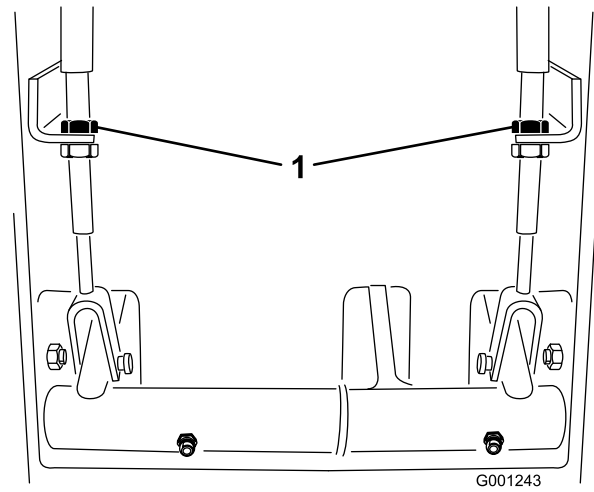

Figure 51
2. To reduce free travel of brake pedals — tighten the brakes — loosen front nut on threaded end of brake cable (Figure 51). Then tighten rear nut to move cable backward until brake pedals have 1/2 to 1 inch (13 mm to 25 mm) of free travel. Tighten front nut after brakes are adjusted correctly.